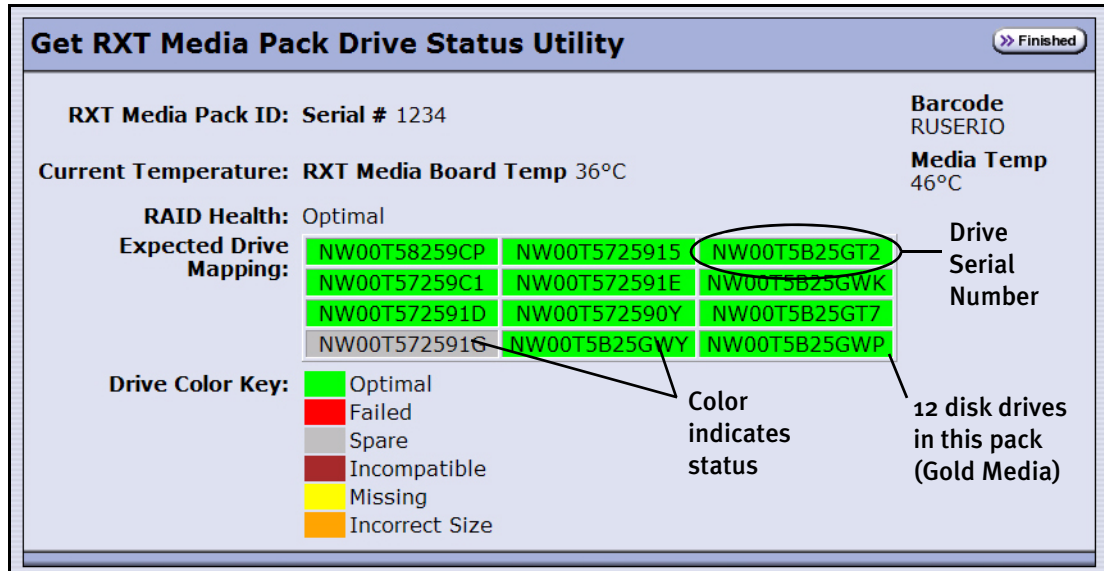

Figure 3-2 The Get RXT Media Pack Drive Status Utility screen.
2. Select **Maintenance** ...> **Tools** ...> **Get RXT Media Pack Drive Status**; the Get RXT Media Pack Drive Status Utility screen displays (Figure 3-2).
3. Locate the failed disk drive, which is labeled with the serial number you wrote down from the **Get RXT Media Pack Drive Status Diagnostic** screen (Figure 3-2 on page 24).